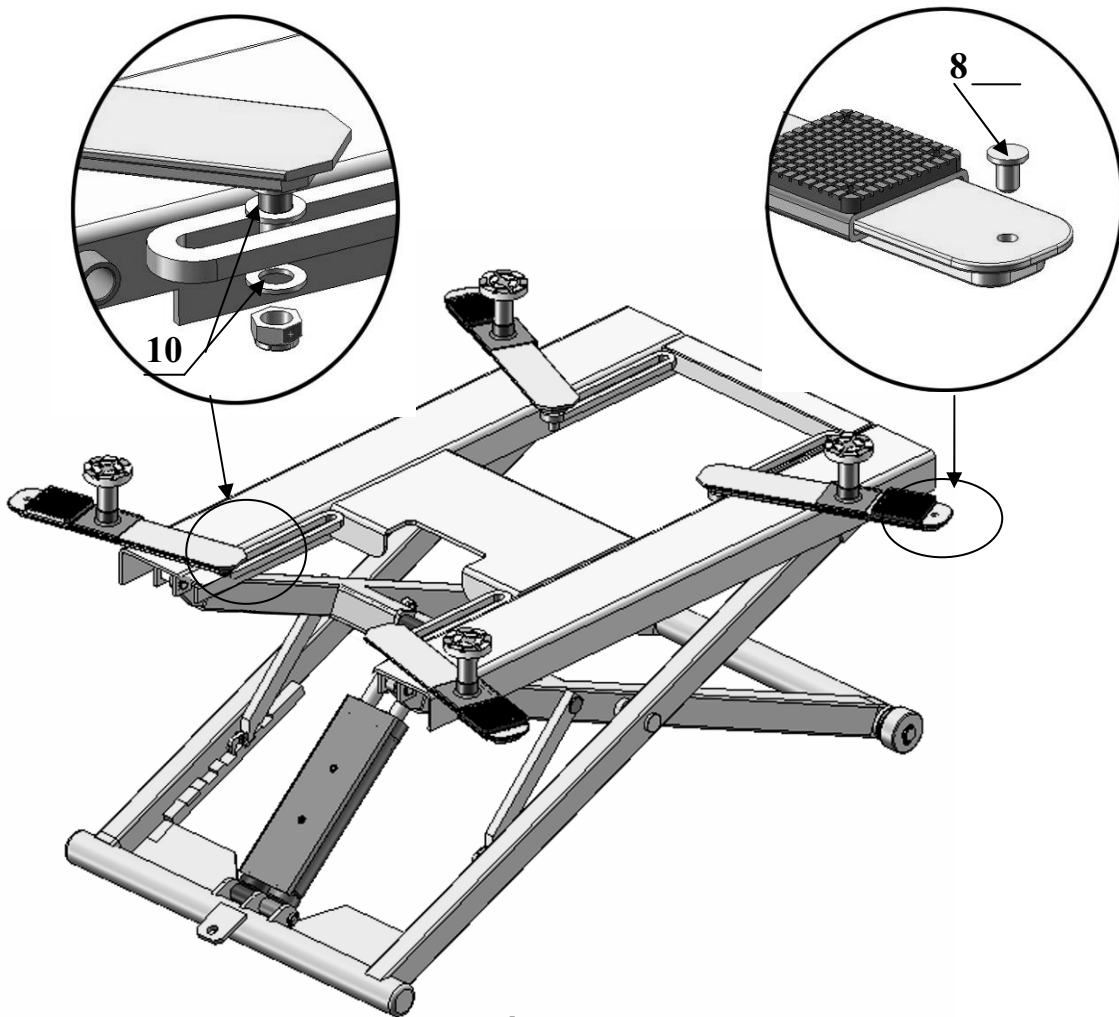

Fig. 9
2. Install support arms and pads (See Fig. 9)